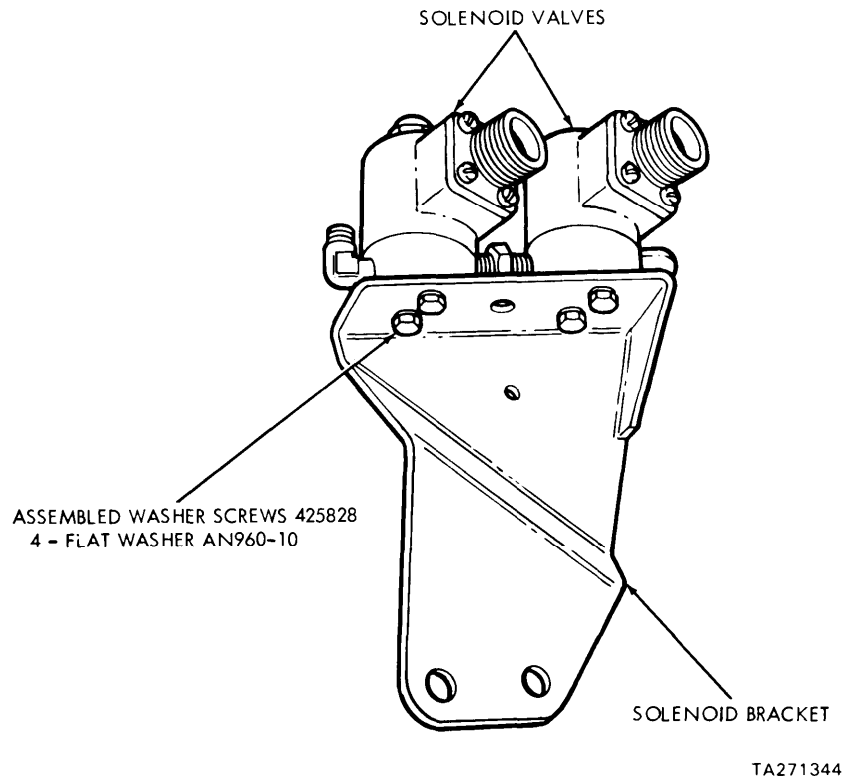

Figure 6. Solenoid Valve Assembly
(6) Install assembled solenoid valves on solenoid bracket 12275712 as shown in figure 6 with four assembled washer screws 425828 and four flat washers AN960-10.